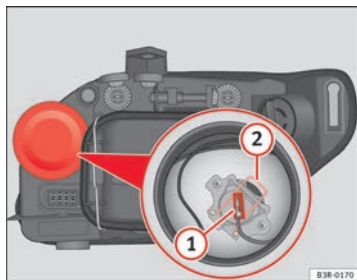

Fig. 207 Main beam headlights
- Remove the connector ⇒ fig. 207 (1) from the bulb.
- Press the spring ⇒ fig. 207 (2) inwards and to the right.